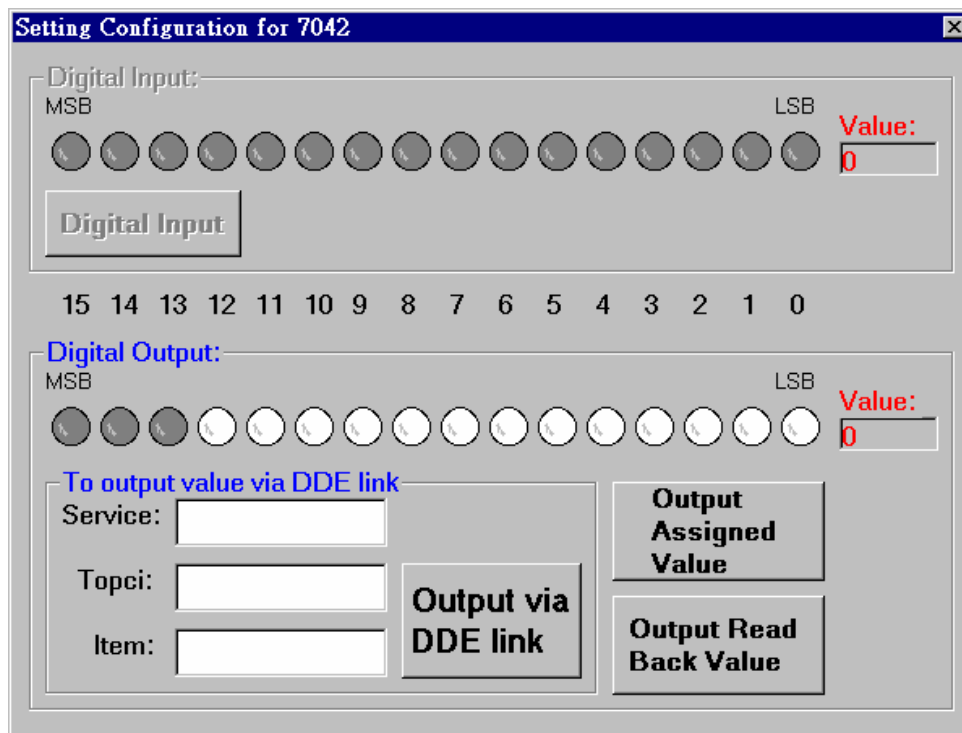

Fig 2-24 The *setting Configuration for 7042* window.
Step 3: After selecting 7042, a window titled *setting Configuration for 7042* will pop up as Fig 2-24 shown.